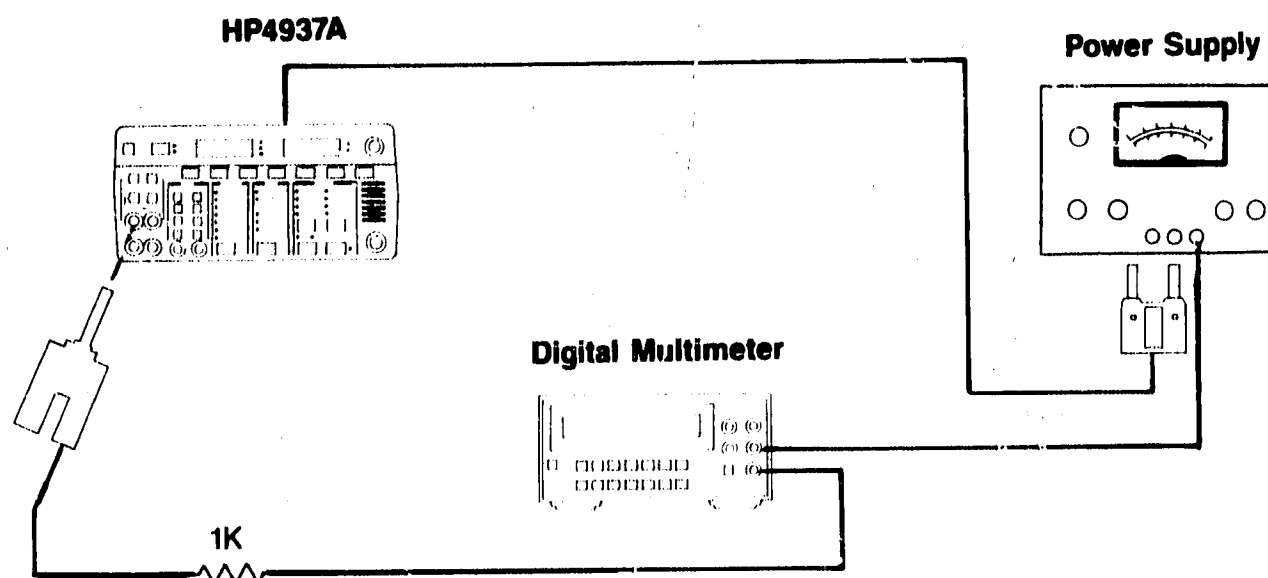

Figure 4-12. Battery Bridging Loss Test
3. Connect the equipment as shown in Figure 4-12 (The HP 4937A ground connection is on the rear panel).